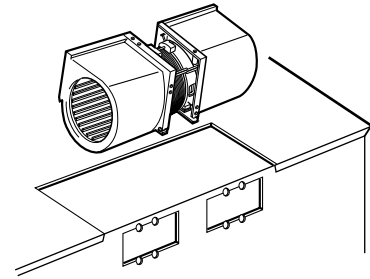

Figure 21-b
- (1) When mounting the door assembly to the oven assembly, be sure to adjust the door assembly parallel to the chassis. Also adjust so the door has no play between the inner door surface and oven frame assembly. If the door assembly is not mounted properly, microwaves may leak from the clearance between the door and the oven.
- (3) Carefully pull the ventilation motor ASS'Y out of the microwave oven. (See Figure 21-b)